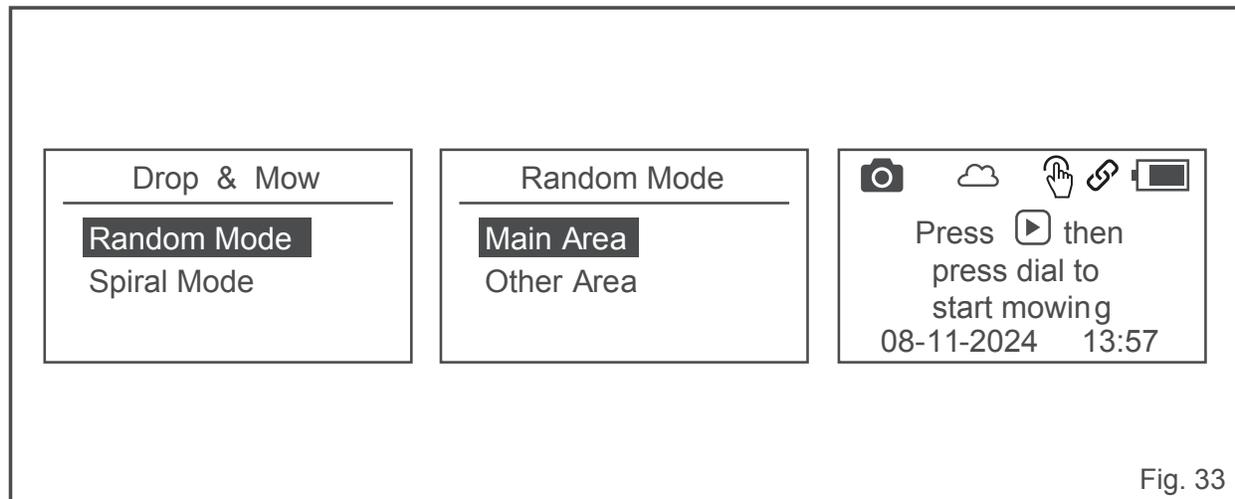

Fig. 33
- Select Random Mode or Spiral Mode by turning the Dial. Press the Dial to confirm (Fig. 33).
- Press the Dial to confirm (Fig. 33).